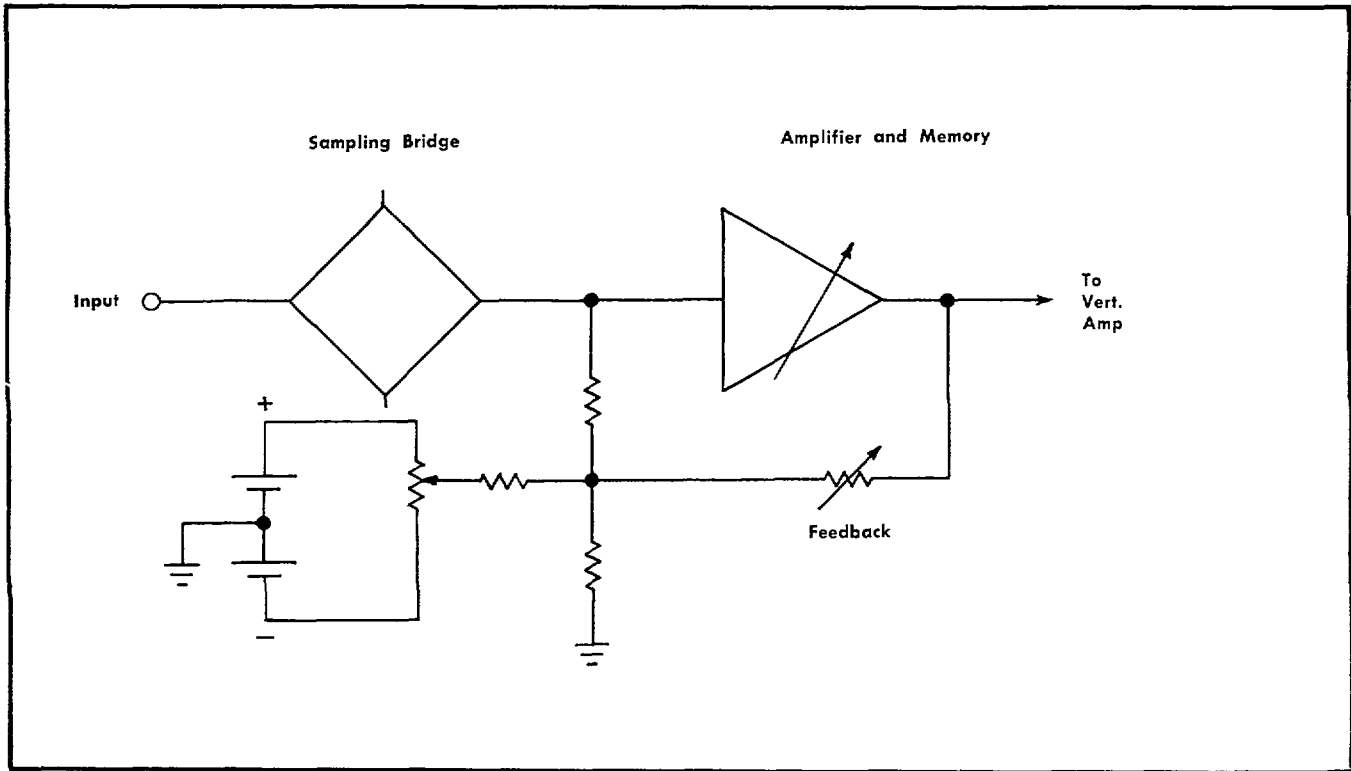

Fig. 2-7. Method of adding a DC voltage to the memory feedback.
(2) The dot response is determined by the combined forward gain of the amplifier and the feedback attenuation ratio. Dot response is controlled by changing the forward gain of the amplifier, independent of the feedback ratio.
(3) To change the display sensitivity without changing the dot response, both the forward gain of the amplifier and the feedback attenuation ratio are changed by the same factor, as shown in Fig. 2-7. This results in a change in the output of the memory amplifier amplitude, but does not change the dot response.
Since the sampling bridge can operate linearly over a range of +2 to -2 volts of input signal, and the system has resolution capability of 2 mV/div, it is advantageous to be able to display a small vertical "window" of the input signal. Fig. 2-7 shows the method of adding a DC voltage to the memory feedback. The error signal that is produced at sampling time is no longer referenced to ground. Instead, it is referenced to the DC offset voltage. The memory feedback voltage produced is therefore the difference between the DC offset and the input signal. The selected deflection sensitivity is then centered around the DC offset voltage instead of ground.